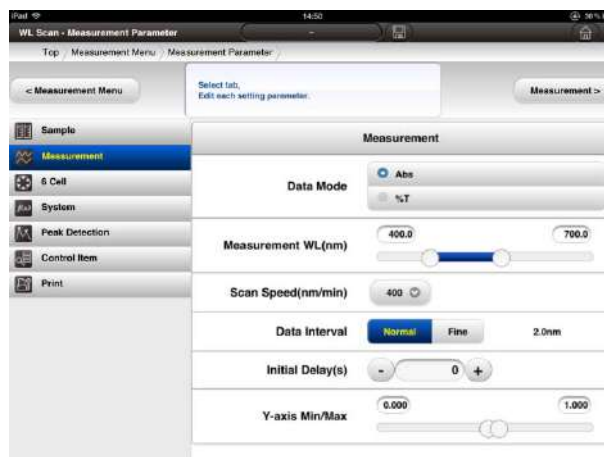

Fig. 4-72 Measurement Window
- (1) Press  [Measurement tab] to set measurement conditions.
- (2) The sample conditions window (Fig. 4-72) will be shown. Set the wavelength number, wavelength, and initial delay. See Table 4-46 for each parameter.